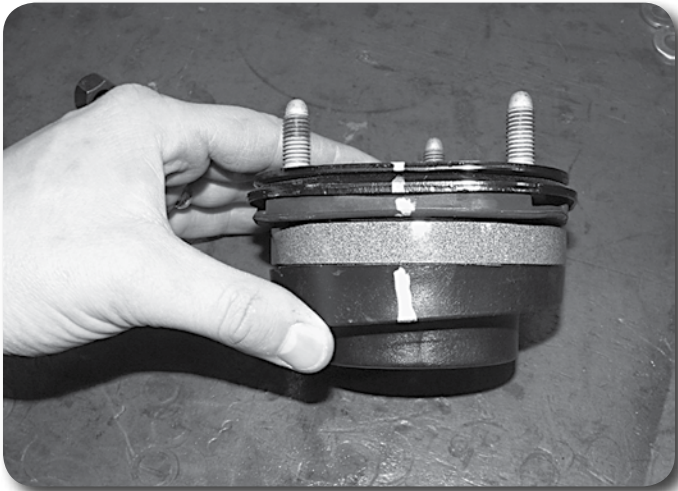

Figure 20
47. Place the provided preload spacer between the plastic coil seat and the rubber isolator **Figure 20**.